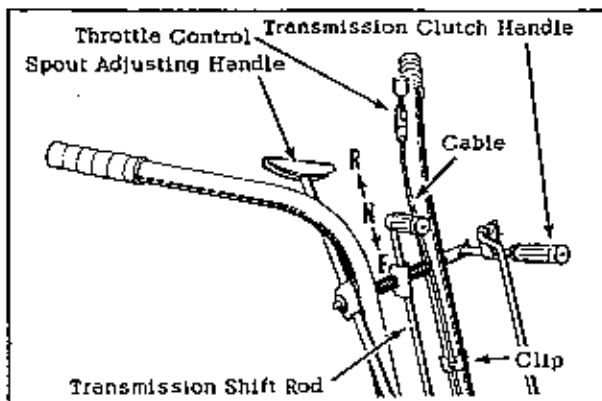

Fig. 2
2. Attach the spout adjusting handle, shift rod, and clutch rod to the upper end of the handles as shown in Figure 2.
6. Fasten throttle control to left handle with 2 self tapping screws as shown in Fig. 2. Attach cable to left handle with cable clips.
The direction of travel of the snow plow is controlled by the position of the transmission shift lever. Refer to Figure 2. When shifting the transmission, always put the transmission clutch in disengaged position. To disengage the clutch, push the clutch lever forward. Refer to Figure 2. With the clutch disengaged, push forward on the transmission shift lever and the transmission will shift into forward position and snow plow will travel forward when the clutch is engaged. To reverse the snow plow, disengage the clutch and pull back on shift lever and transmission will shift into the reverse position. Neutral position of the shift lever is half way between forward and reverse and the lever will be held in this position by a detent lever on left side of the snow plow frame.